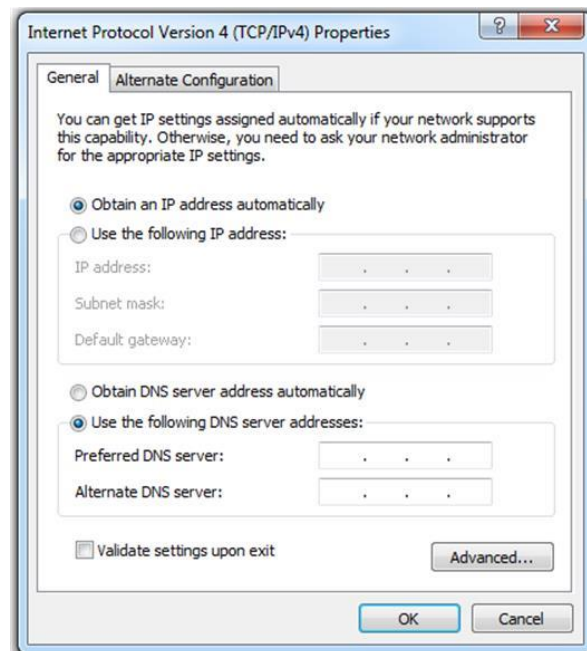

Figure 3-10 Windows Network Connections IPv4 properties page - DHCP
Step 7: To set the unit to DHCP mode, select the "Obtain an IP address automatically" option. See Figure 3-10.